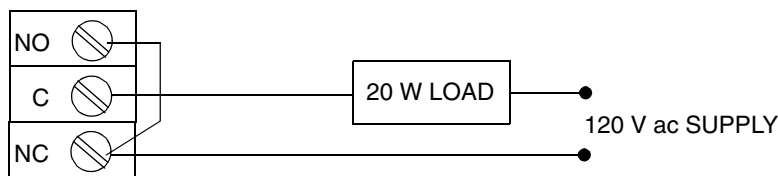

Figure 26. Alarm Contact Reconditioning Circuit
2. Connect a load of 20 W or more as shown in Figure 26 so that both NO and NC contacts are exercised.